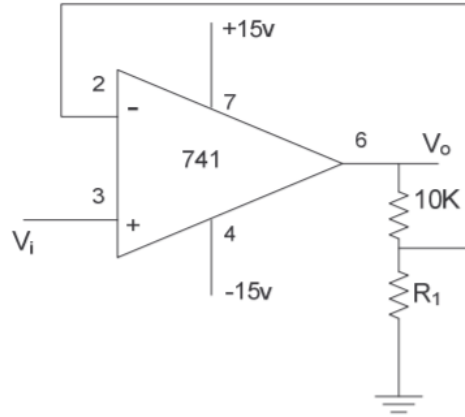

Figure 3-11 Non-Inverting Amplifier
5. Construct the amplifier of Figure 3-11.